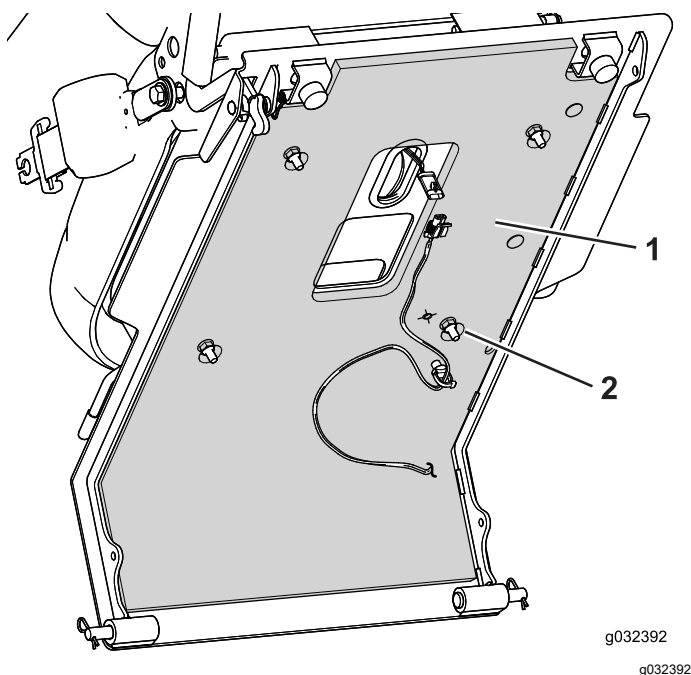

Figure 6
5. Remove the backing and apply the under-seat shield to the bottom of the seat deck (Figure 6).